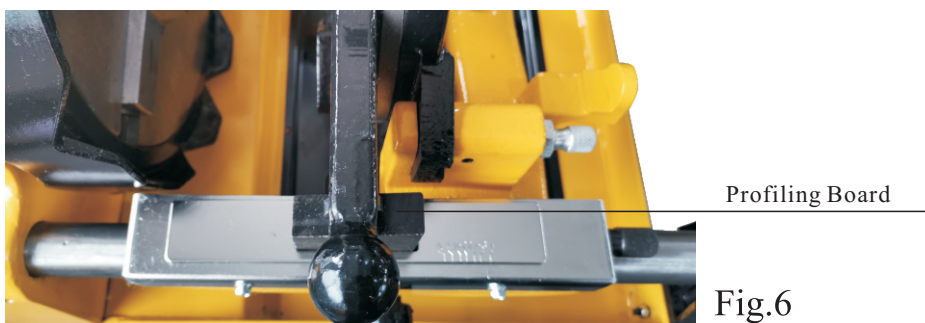

Fig.6
e. Pull up the Cutter Kit and Reamer Cutter Kit to make room, then push down the Die Head, make it to touch the Profiling Board(see Fig.6), and lock it tight with locking pin. Push the button switch to start the machine after the Die Head is fixed on its proper position.